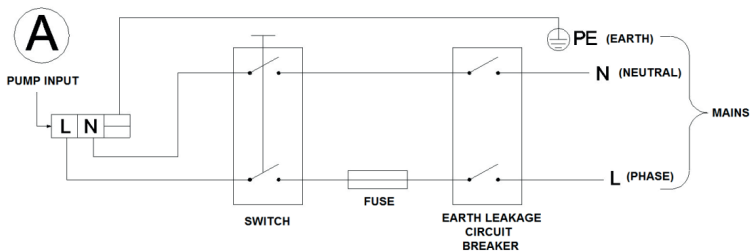
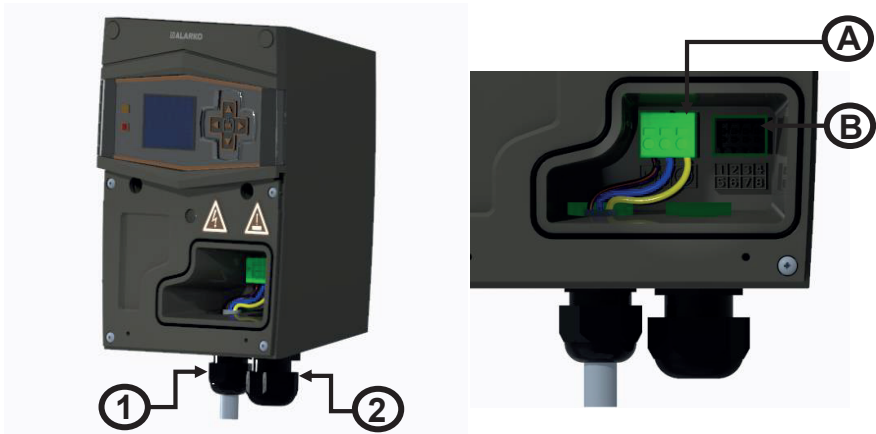

Figure 6.8: Electrical Connection Diagram
Figure 6.10: Cable Gland View
Electrical connection diagram is given at Figure 6.8.
5. Pull the power supply cable through the no.1 cable gland shown in Figure 6.10.
6. Connect the power supply cables to the socket named as "A" in Figure 6.10 appropriately, as shown in Figure 6.8.